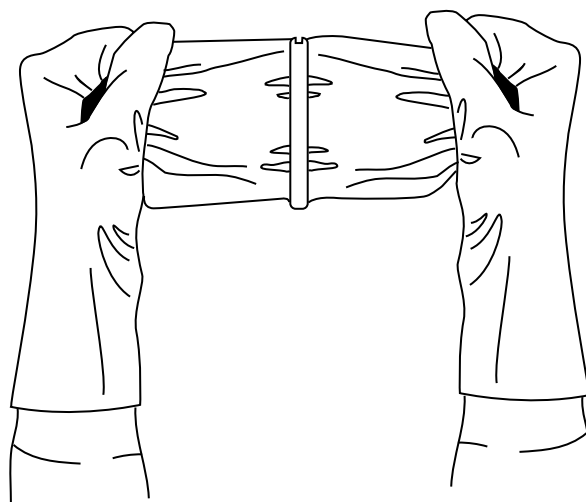

Figure 21. Removing Sealing Compound Clip
6. Remove bag of "Sealing compound" from foil package. Grasp the ends, one in each hand, then pull sharply to remove plastic clip [Figure 21].